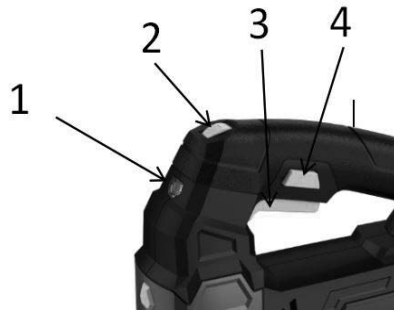

Fig. 3
1. By turning the speed adjusting knob (1) forward or backward, you can get the variable speed.
3. Position “1” denotes the lowest speed. Position “6” denotes the highest speed. (See Fig. 3)
Switch on and off. (See Fig. 3)